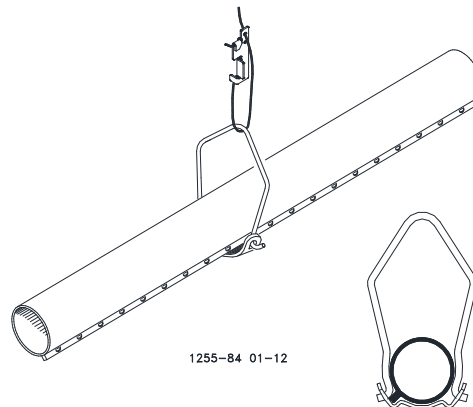

Figure 30. Hanger Installation
3. To achieve total feed drop out all along the system, the Chore-Time Logo should be centered at the crown of the tubes and all the Hangers should be installed as shown in **Figure 30.**